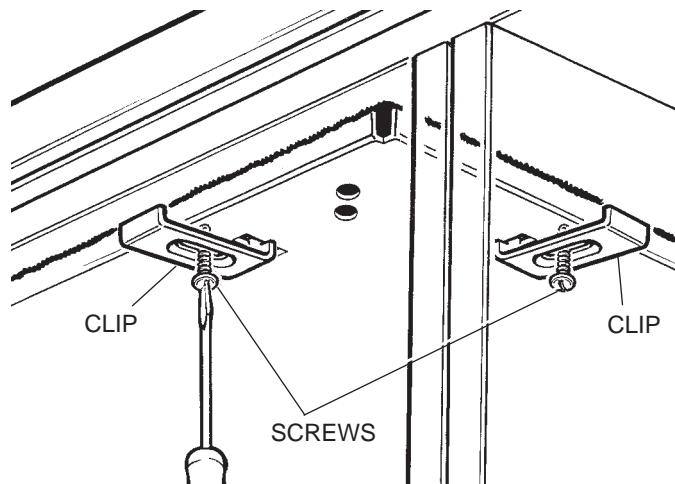

Figure 12 - fixing to worktop
7. Turn the clips, making sure that the clips grip the worktop, and then tighten the screws (Figure 12).